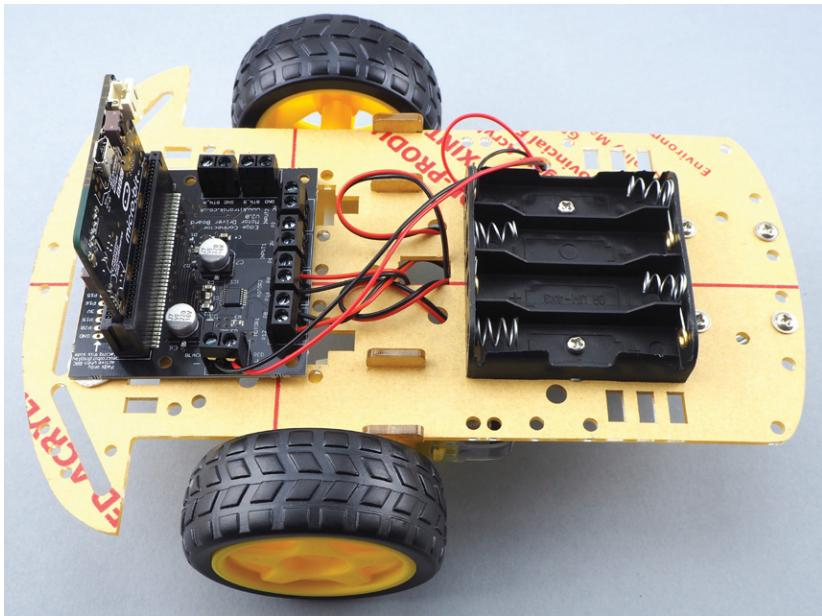

Figure 6-26: Wiring up
5. It's time to wire up the motors and battery box. First, look at Figure 6-26 to see what you are aiming for. Unscrew the screw on the relevant terminal, place the wire firmly inside the terminal, and then screw the screw back in fairly tightly.